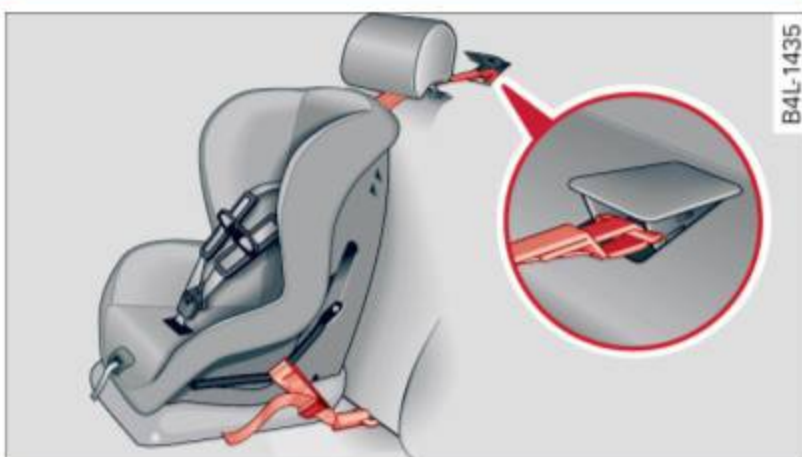

Fig. 160 Tether strap: proper routing and mounting
- ▶ Guide the upper tether strap **under** the rear head restraint ⇒ *fig. 160* (raise the head restraint if necessary).